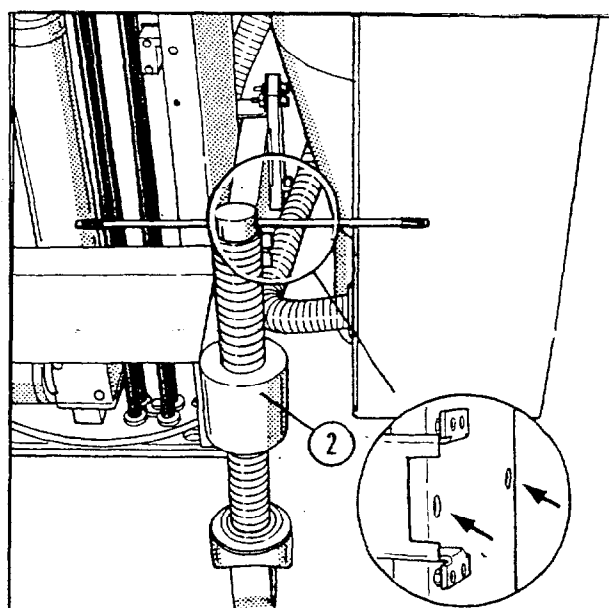

Fig. 4
- ◀ • Attach the trolley part with the two transport rollers (2/ Fig.4) to the fork-type part of the transport trolley using 8 Allen screws; the four pins of the two transport trolley parts must lock in the corresponding holes (✓) on the unit (detail/ Fig.4).